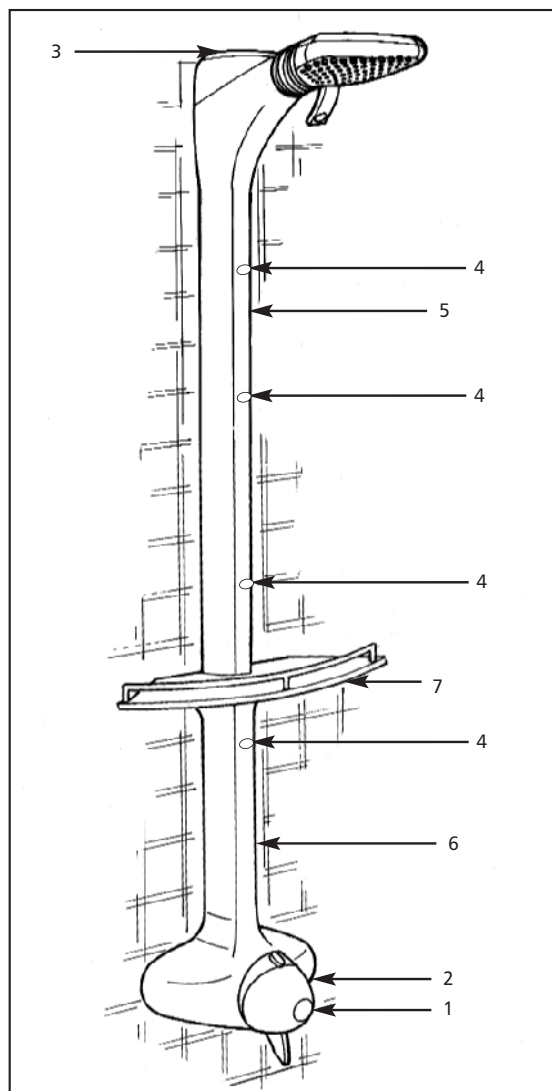

Fig.5. Jetstream on wall
The unit must be fitted to the finished tiled surface, (see Fig 5).
6. Offer the unit to the wall and mark the two upper holes (A).
7. Fit the unit to the wall by screwing through the two upper fixing holes (B).
9. Drill the six lower fixing holes (C) to a depth of 40mm and insert the wall plugs provided.
11. Screw the base assembly to the wall, using the screws (D) provided.
12. Refit the cover moulding (Fig 5, item 6). Position the shelf onto the pegs in the moulding. Then refit the top cover moulding (Fig 5, item 5) whilst supporting the shelf at the same time. Refit the rest of the cover mouldings and control knob by reversing procedures 1 to 4 above, ensuring that the black rubber gaiter at the back of the shower head is fitted correctly and not distorted.